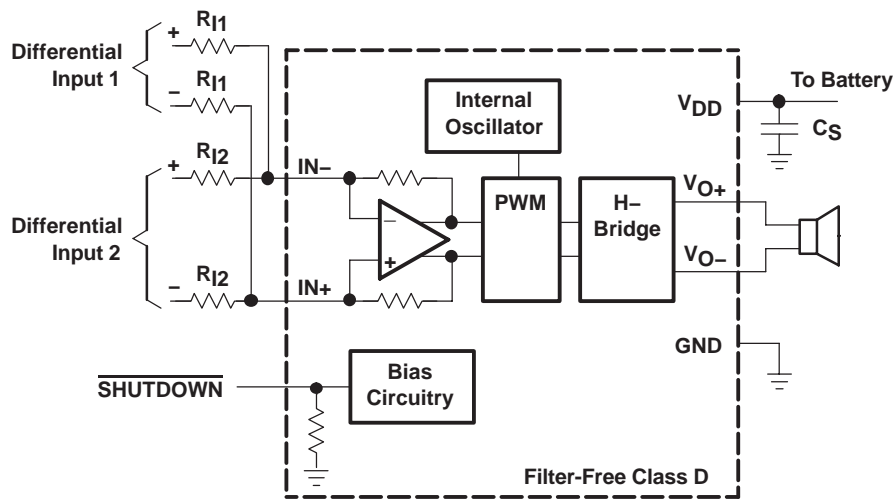

Figure 30. Application Schematic With TPA2010D1 Summing Two Differential Inputs
Two extra resistors are needed for summing differential signals (a total of 5 components). The gain for each input source can be set independently (see equations (4) and (5), and Figure 30).